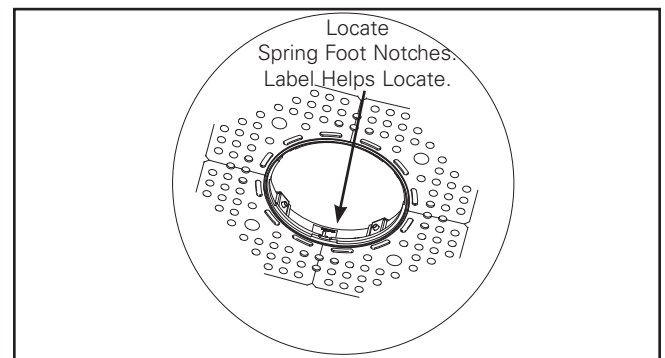

Figure 5.
5. Insert the module into the ceiling and allow the spring feet to seat within the notches (see figure 5). The LED module will only seat properly in one orientation.